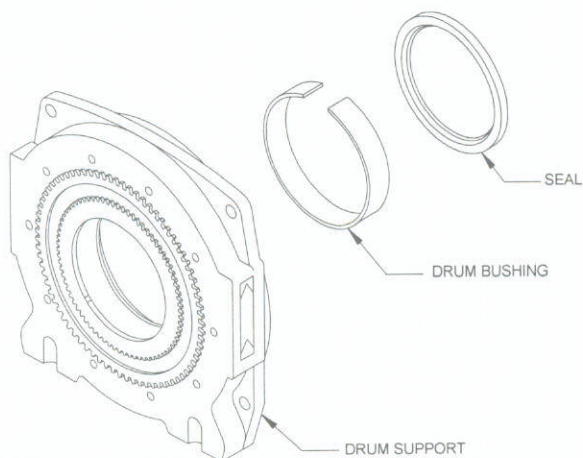

Figure 2.5
6. Remove the split plastic drum bushing and carefully pry out the drum shaft seal (*Figure 2.5*).
4. Press a new seal into the drum support (*Figure 2.5*). Install the split plastic drum bushing.